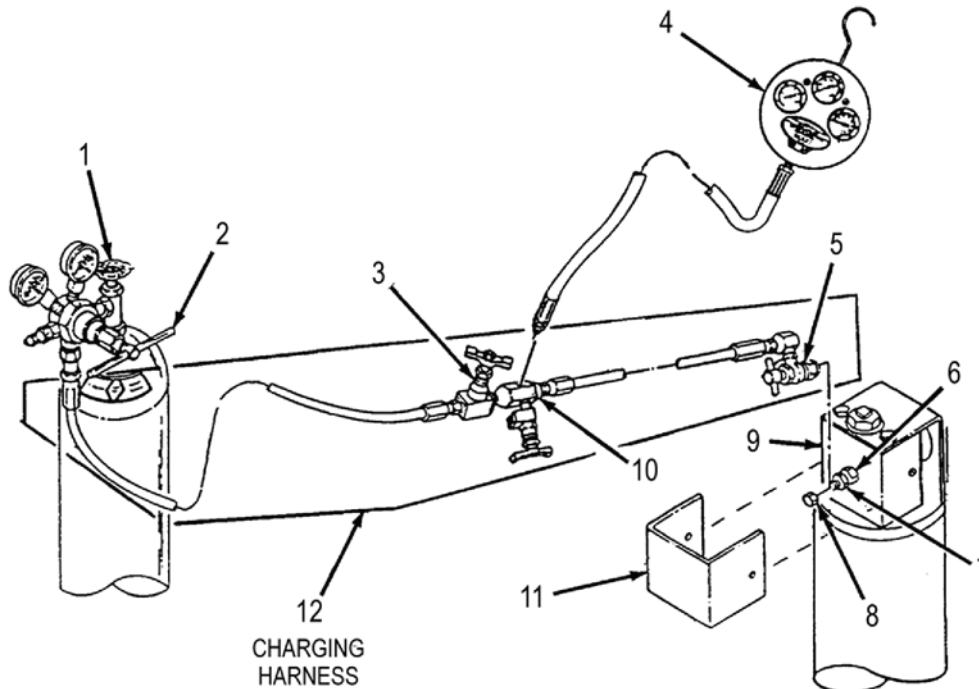

Figure 49. Main Hydraulic Accumulator
- Connect pressure measuring device (Figure 49, item 4) to bleed valve (Figure 49, item 10) on charging harness (Figure 49, item 12). Close shutoff valve (Figure 49, item 3).
- Open nitrogen tank valve (Figure 49, item 1) and adjust regulator valve (Figure 49, item 2) to 50 psi (353 kPa).
- Open shutoff valve (Figure 49, item 3) for about 10 seconds to clear charging hoses. Close valve (Figure 49, item 3).
- Remove valve guard (Figure 49, item 11). Remove charge valve cap (Figure 49, item 8) from charge valve assembly (Figure 49, item 6) on accumulator (Figure 49, item 9).
- Loosely connect adapter valve (Figure 49, item 5) to charge valve (Figure 49, item 6) and again open shutoff valve (Figure 49, item 3) for about 10 seconds. Close shutoff valve (Figure 49, item 3). Fully tighten adapter valve (Figure 49, item 5).
- Open charge valve (Figure 49, item 6) by loosening nut (Figure 49, item 7). Read pressure measuring device (Figure 49, item 4).